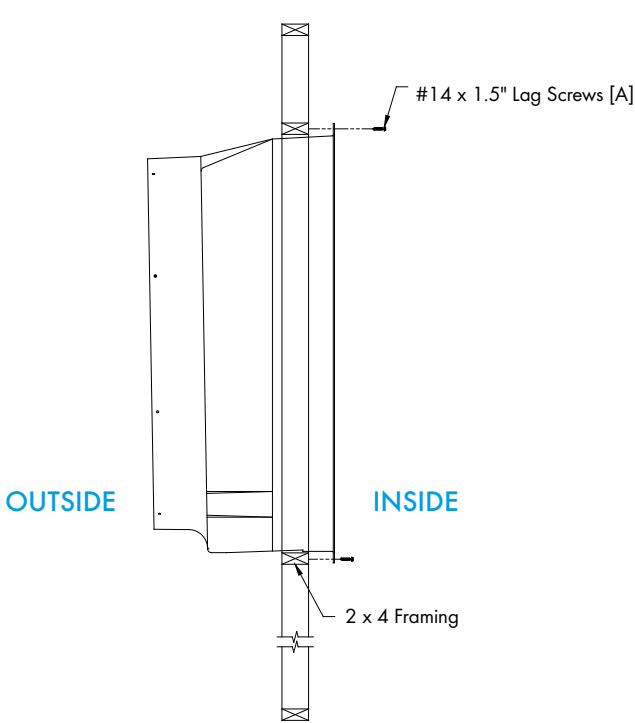

Figure 2A - Frame Construction
Insert fan into the framed opening from the inside. While lifting fan up tight to framing, fasten top of fan with (3) Lag Screw [A]. See Figure 2A and 2B. Next, fasten bottom of fan, then both sides with remaining (9) Lag Screw [A]. Install flashing around opening tight to fan and caulk around fan to seal.